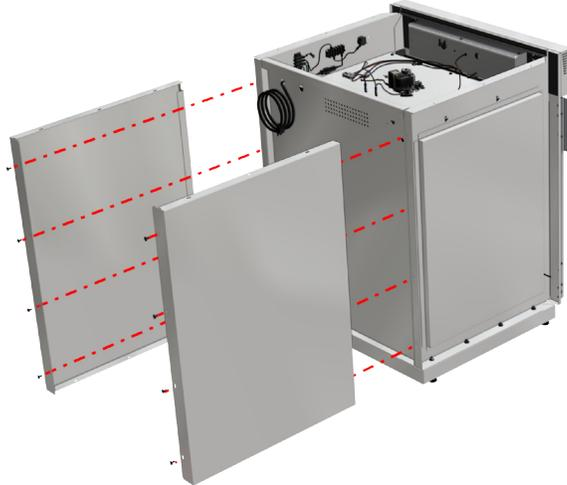

Fig. 3: Remove Side Panels
3. Remove the 8 screws at the back of the cabinet and slide out both side panels (Fig. 3).